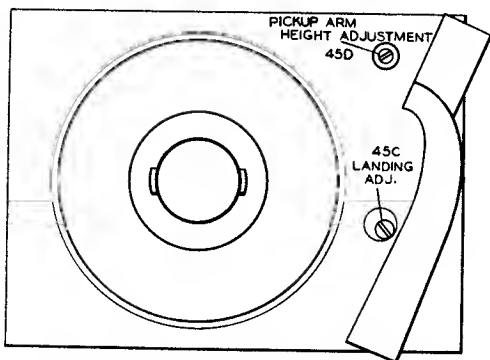

Figure 42—Height and Landing Adjustment Studs.
1. After the tripping adjustment has been made as described above, turn the eccentric landing adjustment stud (45C) so that the sapphire will set down on the record half-way between the outer edge and the first music groove. This position is 2 5/8" from the turntable spindle. The location of the adjustment stud is illustrated in Figure 42.
Set the mechanism in cycle. Turn the turntable by hand, until the pickup arm has reached its maximum height. By means of a screwdriver turn the height adjustment stud (45D) until the distance between the top of the turntable and the sapphire point is $\frac{3}{4}$ " Use that position of the eccentric stud which causes the pickup arm to rise during clockwise adjustment of the stud. The location of the adjusting stud is illustrated in Figure 42.